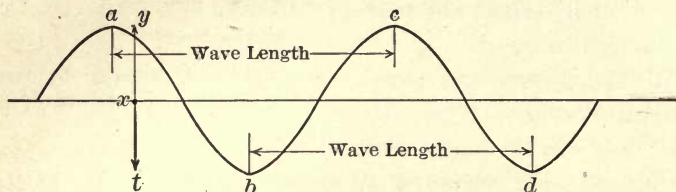

FIGURE 52.—CHARACTERISTICS OF A TRANSVERSE WAVE.
74. Characteristics of Transverse Waves.—In case of the waves in the water, in the grain, and in the rope, we find that, as the waves follow one another, parts of the material are *high* and other parts *low*. The high parts *a* and *c* (Figure 52) are called *crests*, while the low parts *b* and *d* are called *troughs*.